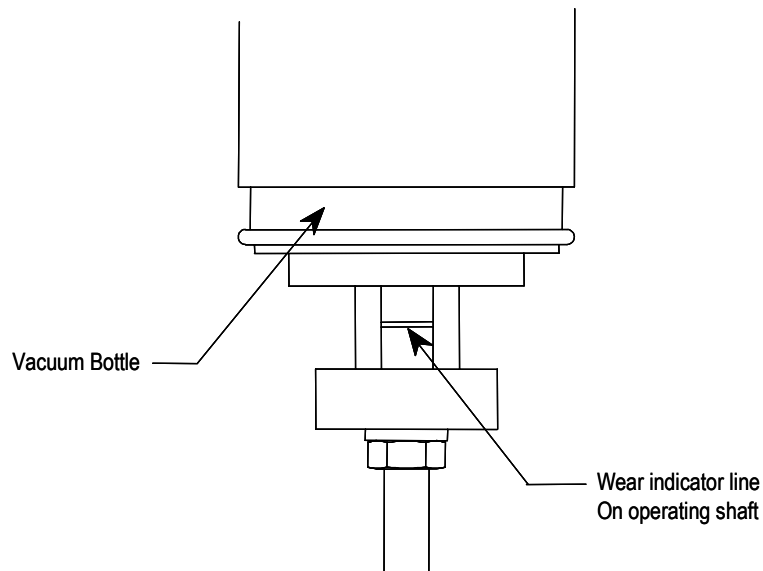

Figure 4.1 – Vacuum Bottle Wear Indicator
- Visually inspect the wear of the main contacts with the contactor energized. When any part of the wear indicator line, located on the front side of the hex shaft, moves up into the bearing, replace all three vacuum bottles. (Refer to Figure 4.1).